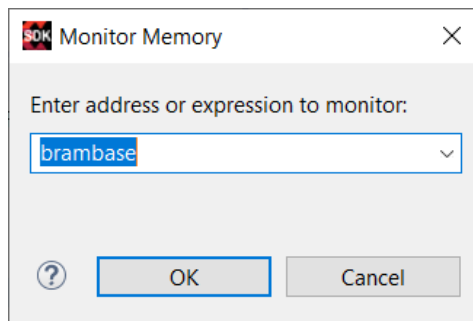

Figure 12: Adding a memory monitor in the GDB debug view
**OK** (see Figure 12 for reference). Now add some breakpoints to the code and run the program to watch the memory change as the writes to *membase* are encountered in the code. This is a useful way to examine the contents of memory to debug your code.